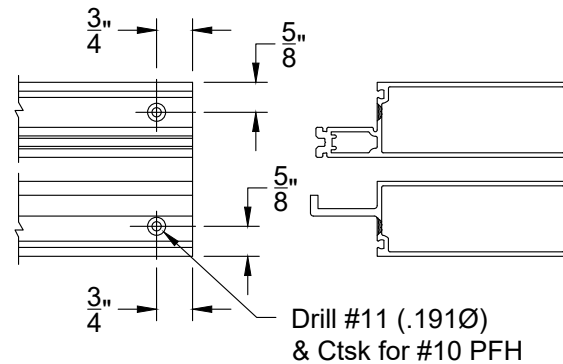

**FIGURE 43**
- 3.26 FIGURE 43 below shows the screw spline assembly for the dual horizontal expansion assembly. Use the Reliance™-SS Installation Manual for typical wall assembly.